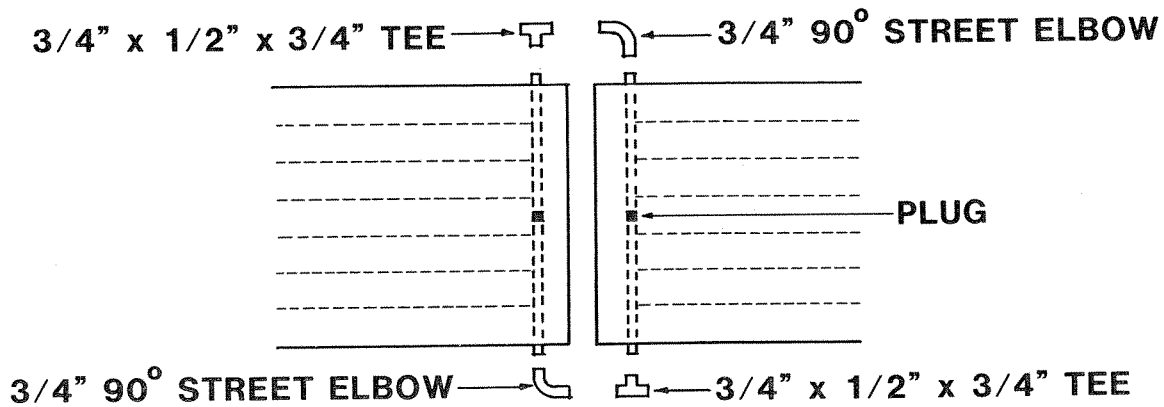

Figure 2.33
- Collectors are placed tightly together and plumbed as shown in Figure 2.33.